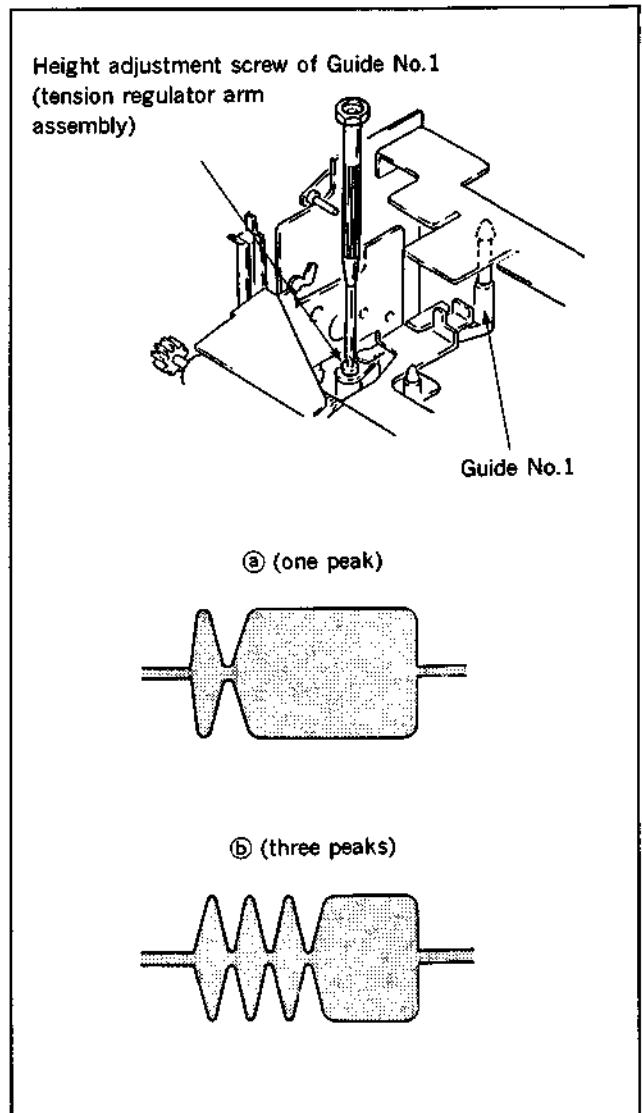

Fig. 6-2-2 Entrance side rough adjustment (2)
1) When the wave shape in Fig. 6-2-2 (a) has only one peak or less, rotate the height adjusting screw of Guide No.1 in clockwise direction. It causes raising the height of Guide No.1.
2) When the wave shape in Fig.6-2-2 (b) has more than four peaks or more, rotate the height adjusting screw of Guide No.1 in counterclockwise direction.